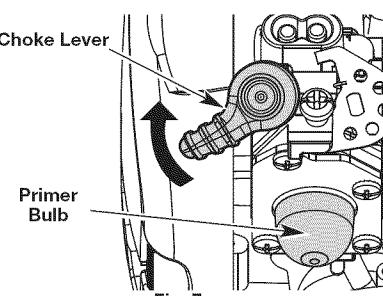

Fig. 7
3. Fully press and release the primer bulb 10 times, slowly. Some amount of fuel should be visible in the primer bulb and fuel lines (Fig. 7). If fuel can not be seen in the bulb, press and release the bulb until fuel is visible.
4. Flip the choke lever clockwise until it clicks (Fig. 7).
3. Fully press and release the primer bulb 10 times, slowly. Some amount of fuel should be visible in the primer bulb and fuel lines (Fig. 7). If fuel can not be seen in the bulb, press and release the bulb as many times as it takes until fuel can be seen in it.